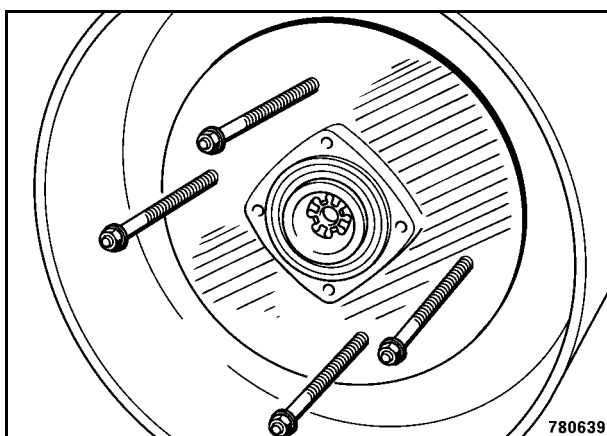

Fig. 8
13. Force the bearing plate (Fig. 8) off with forcing screws.